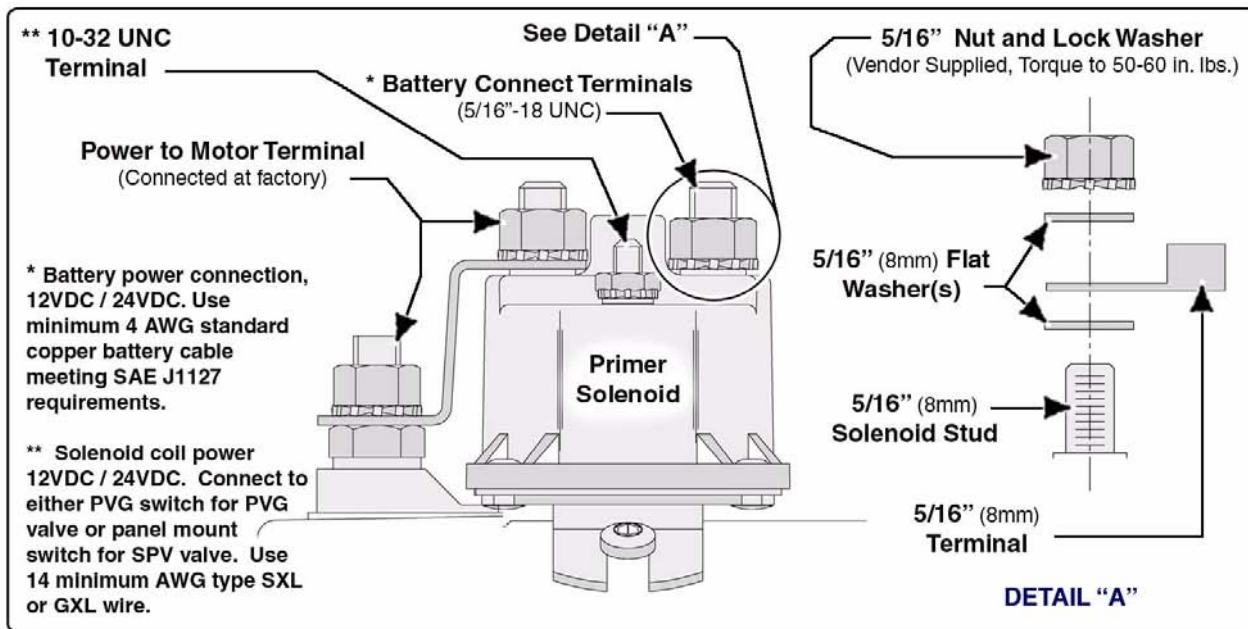

Figure 3-1: Solenoid Connector Arrangement
- To prevent damage to the solenoid plastic housing, when installing or removing wire leads, DO NOT apply side loads to the nuts. (See Figure 3-1: “Solenoid Connector Arrangement.”)